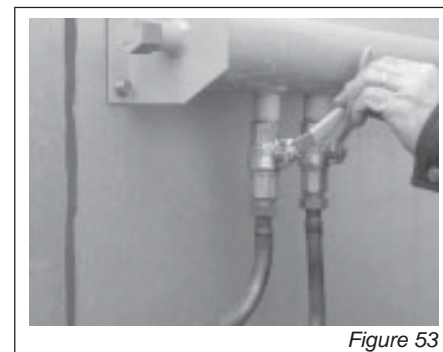

Figure 53
- With the gas burner running, disconnect the flexible tube fitted to the pressure tapping on the smoke box (figure 53).